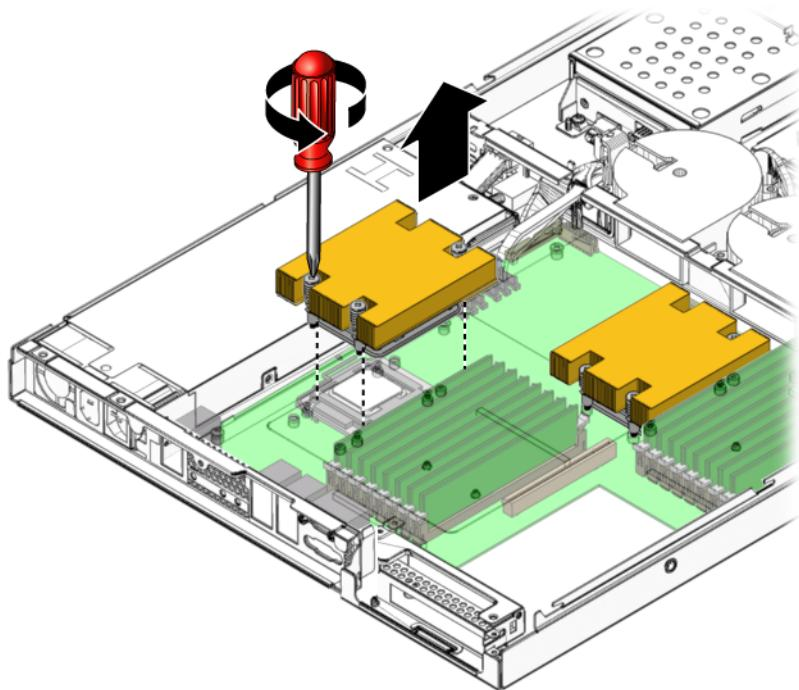

FIGURE 4-29 Removing the Heatsink
2. Unfasten the four screws securing the heatsink to the board (see FIGURE 4-29).